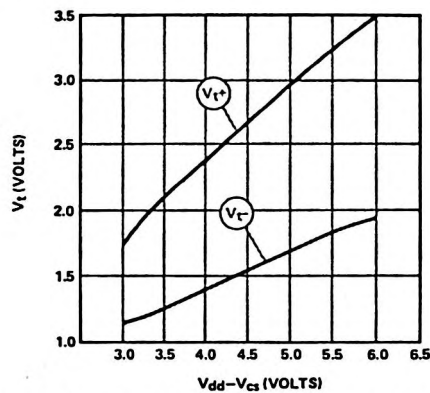

Figure 1. Typical Schmitt Trigger Input Thresholds
2. In general, for any V_{DD} between the allowable limits (+3V to +6V), $V_{IL} = 0.3V_{DD}$ and $V_{IH} = 0.7V_{DD}$; V_{T+} and V_{T-} vary as Fig 1; $V_{OH} = V_{DD} - 0.5\text{V}$ and $V_{OL} = V_{SS} + 0.2\text{V}$ @ (\pm) 1.6 ma respectively.